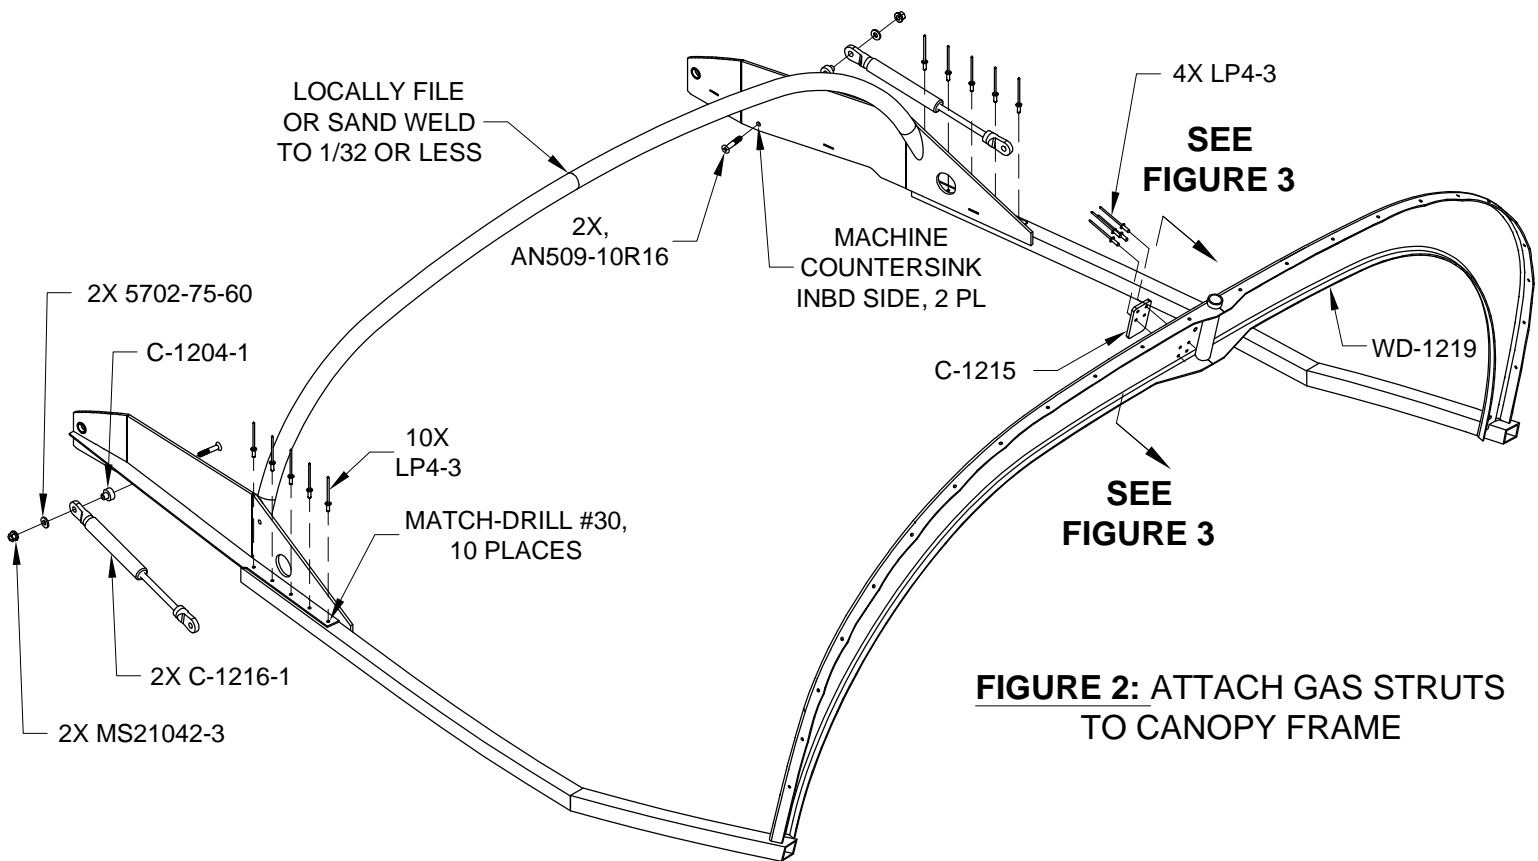

FIGURE 2: ATTACH GAS STRUTS **TO CANOPY FRAME**
Step 2: Machine countersink the WD-1219 Canopy Frame two places to fit the head of a #10 flush head screw as shown in Figure 2. The depth of the countersink should be such that the screw head is flush to 1/32 protruding. A #30 pilot countersink can be used if you are very careful or you can buy/borrow a cutter with a #12 pilot.
File or sand the weld in the center of the canopy frame front bow such that it protrudes not more than 1/32 above the basic tube. See Figure 2. This should be localized to only the place where the canopy will later make contact. See Page 34-05, Detail C for the location of the canopy to frame contact.
Deburr the holes in the canopy frame then attach the latch handle stop to the canopy frame using the hardware called-out in Figure 2.